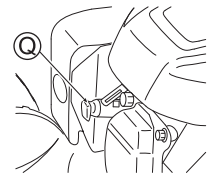

Fig. 39
- Remove Plug cap (Q). (See Fig. 39)